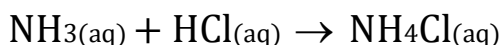

Figure 4. Calorimeter. **A.** Cutting off 3 cm of the top of a foam cup. **B.** Complete setup for calorimeter.
- b. Trim the lip of a second foam cup, about 3 cm from the top using a pair of scissors. This will act as the lid of the calorimeter. Place the trimmed foam cup upside down in the top of the other foam cup, providing an insulated environment for monitoring temperature as shown in Figure 4.
- c. Using the digital thermometer, poke a hole in the top cup so a thermometer can be inserted. See Figure 4 again for complete setup.